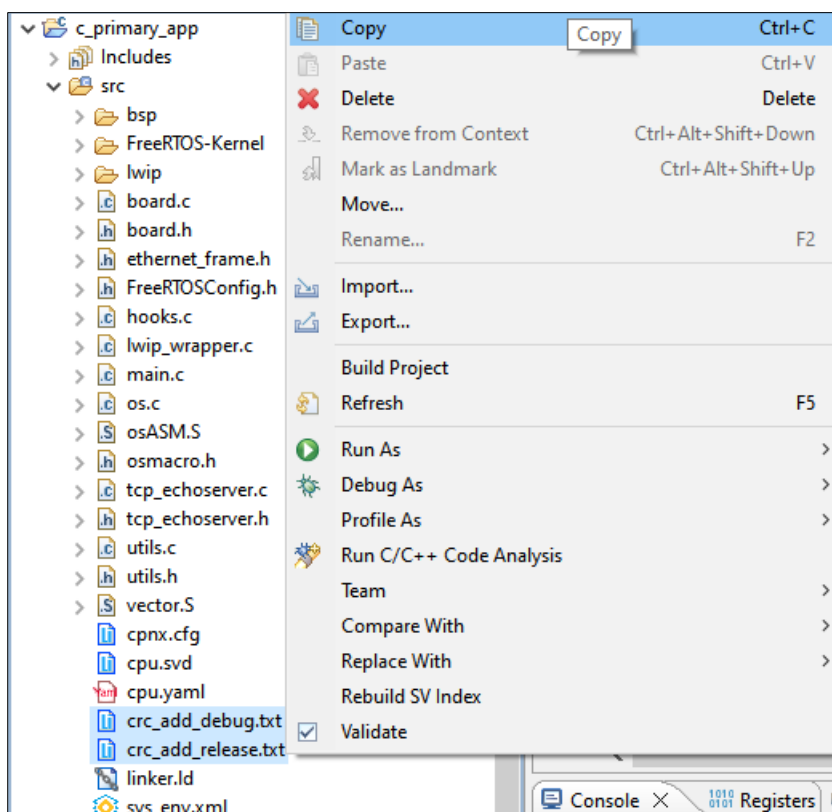

Figure 7.37. Copy the CRC Add files
- Paste it in your main c_primary_app project as shown in Figure 7.37.